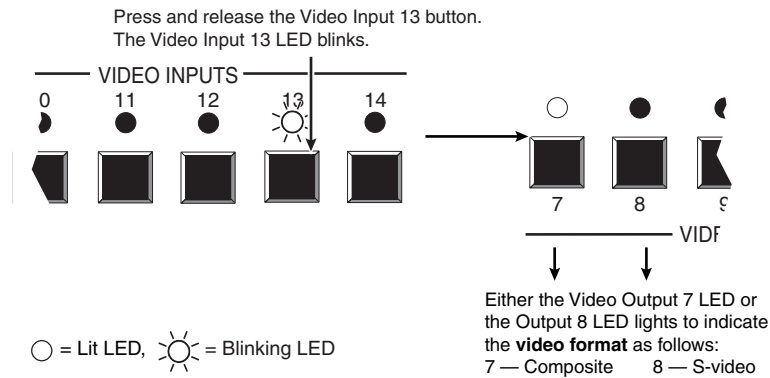

Figure 3-48 — Input selection and video format display
3. Press the Video Input button for one of the configurable inputs (11 through 14) (figure 3-48).